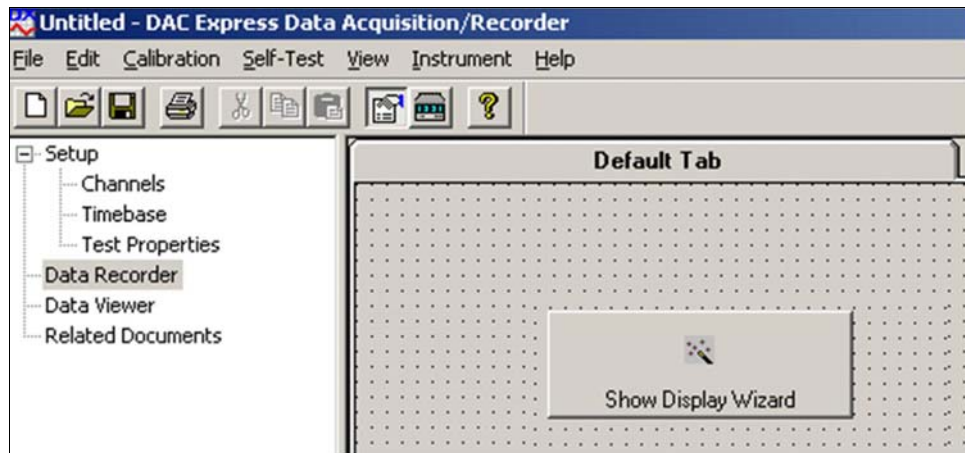

FIGURE 3-9: DATA RECORDER DISPLAY WIZARD
- b) Next, click on the **Show Display Wizard** button (see Figure 3-9).